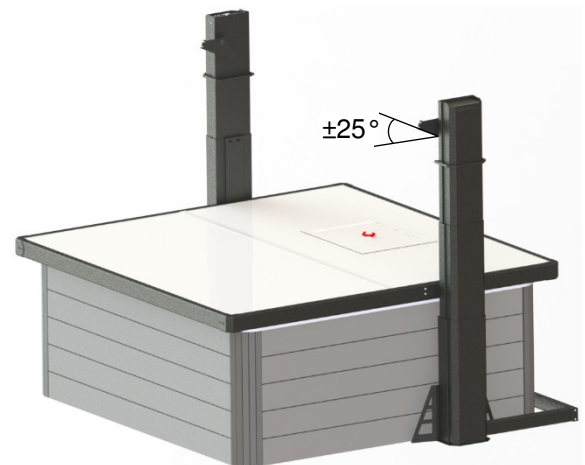

Figure 22
- 5) Turn the key to raise the system until it reaches a full tilt (approx. 25°), raise the posts an extra inch (2.54 cm) and stop. (Figure 22)